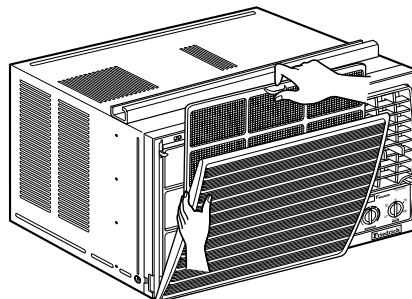

Figure 1
5. Re-install the component by referring to the above removal procedure. (See figure 1)